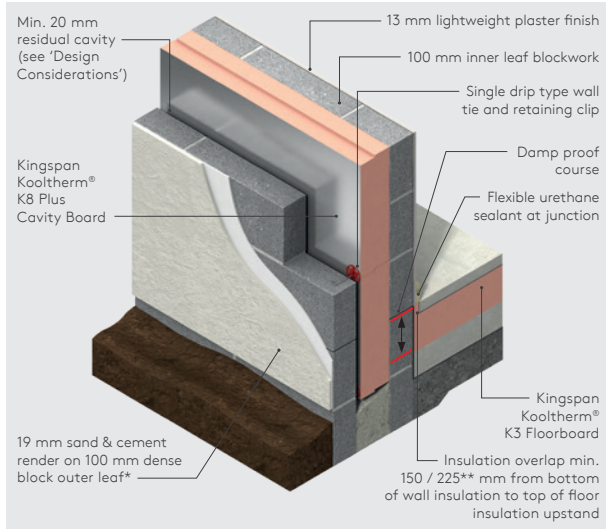

Figure 1
- In order to minimise cold bridging at the edge of ground floors, the distance between the top surface of the floor insulation or perimeter insulation upstand, and the bottom of the wall insulation must be a minimum of 150 / 225\* mm for a concrete floor (see Figures 1 & 3) and 200 mm for a suspended timber floor. The further appropriate wall insulation extends past the floor insulation, the better the thermal performance of the junction between the wall and the floor.